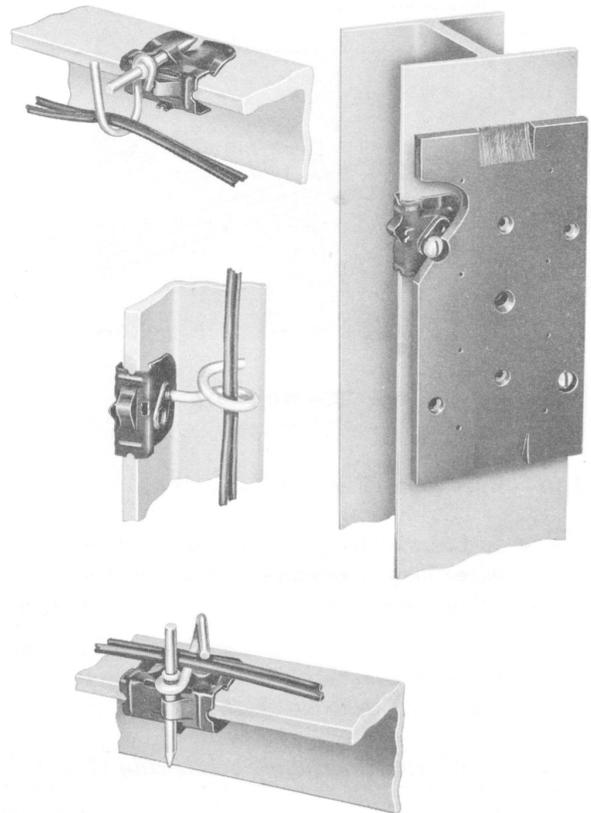

Fig. 11 — B Beam Clip, Installations
- Various installation arrangements for the B beam clip are shown in Fig. 11.